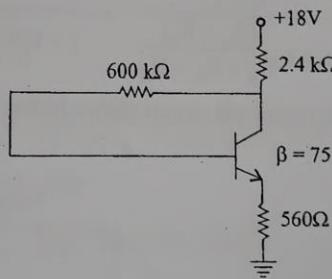

Fig. 1.45
**Example 1.16** Calculate dc collector current  $I_C$  and voltage  $V_C$  for the bias circuit shown in Fig. 1.45.